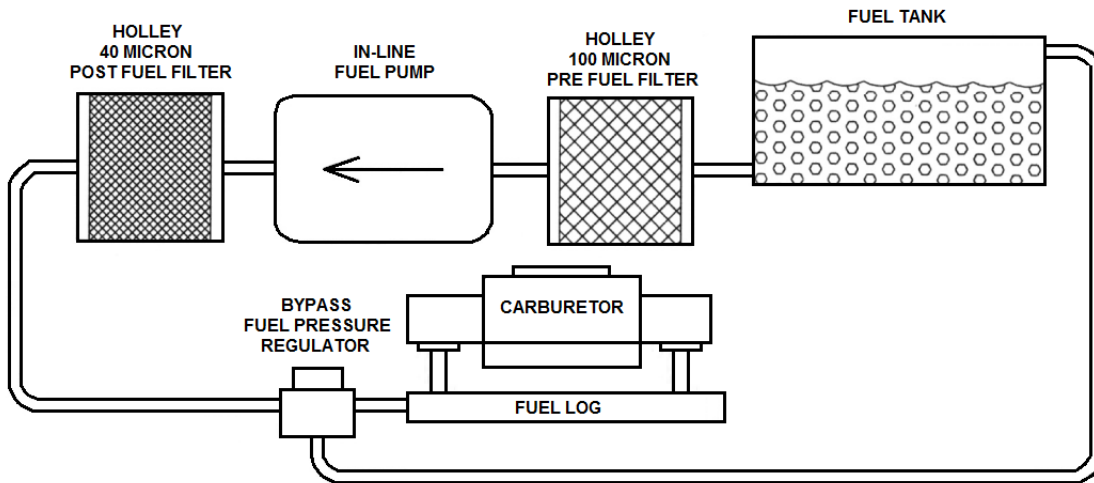
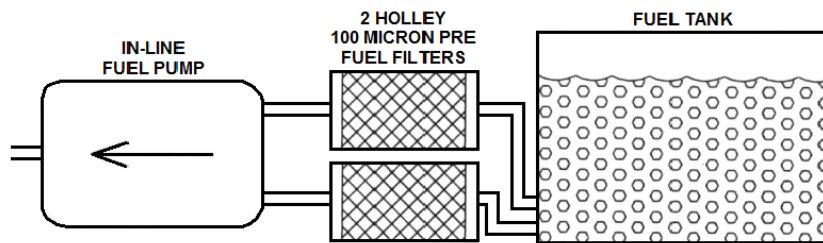

Figure 4a (Carb applications only)
Figure 4c
5. Connect the fuel supply line from the tank to the pre-filter and then **to the inlet port of the pump**. Connect the main fuel feed line to the outlet port of the pump, then to the post filter. See **Figures 4a and 4b**. If using a pump with dual inlets, both inlets **MUST** be plumbed or pump failure will occur! See **Figure 4c**.
(If using a pump with dual inlets, connect the fuel lines as shown and plumb the rest according to Figures 4a, 4b, or 4c.)